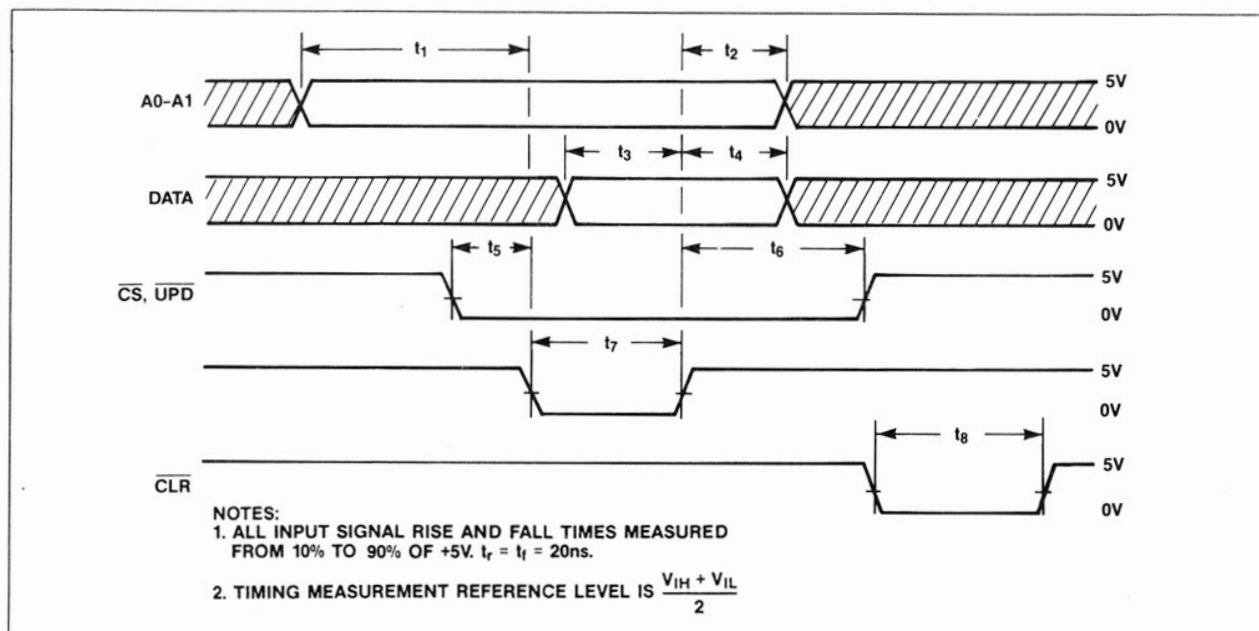

Figure 2. Timing Diagram for MX7537
Figure 2 shows the timing diagram for the MX7537. A1 and A0 select the most-significant (MS) or the least-significant (LS) input registers for DAC A or DAC B (Table 1). When loading the MS register, DB3 is the MSB of the 12-bit data input. Similarly, when the LS register is loaded, DB0 is the LSB. Data is loaded into the DAC when  $\overline{CS}$  and  $\overline{WR}$  both go low.  $\overline{CLR}$  and  $\overline{UPD}$  must be kept high while the data is loaded. When  $\overline{CLR}$  is low, all registers are cleared without regard to the state of other control signals. When  $\overline{UPD}$  and  $\overline{WR}$  are low, the DAC registers are updated simultaneously from the input registers. When  $\overline{UPD}$ ,  $\overline{CS}$  and  $\overline{WR}$  are low, the DAC registers are transparent and load the